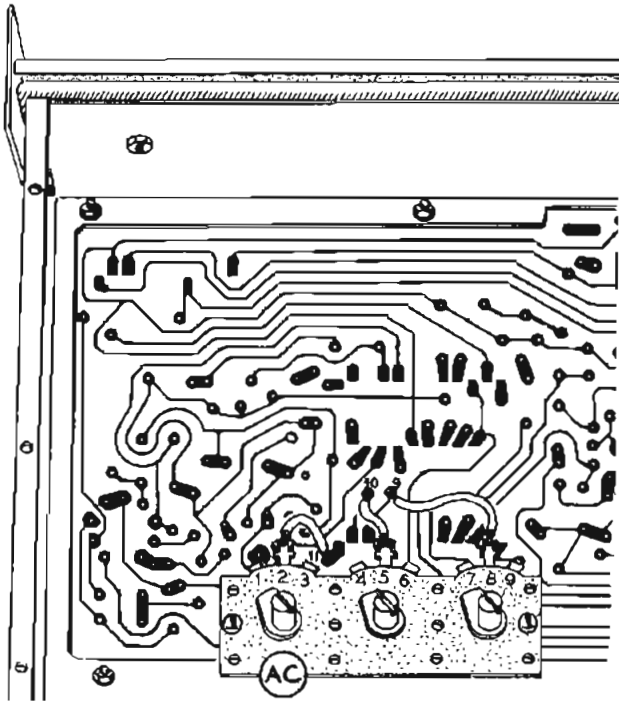

Figure 19
- ( ) Install the remaining triple 250 K $\Omega$  control AC. See Figure 19.